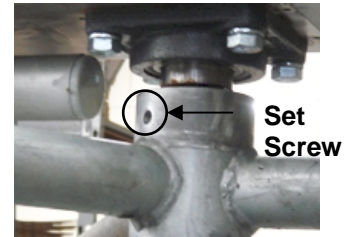

Figure 3.18b - Set screw on top of the Roto.
33. Tighten the set screw found on top of the Roto with an Allen wrench. (See **Figure 3.18b**).